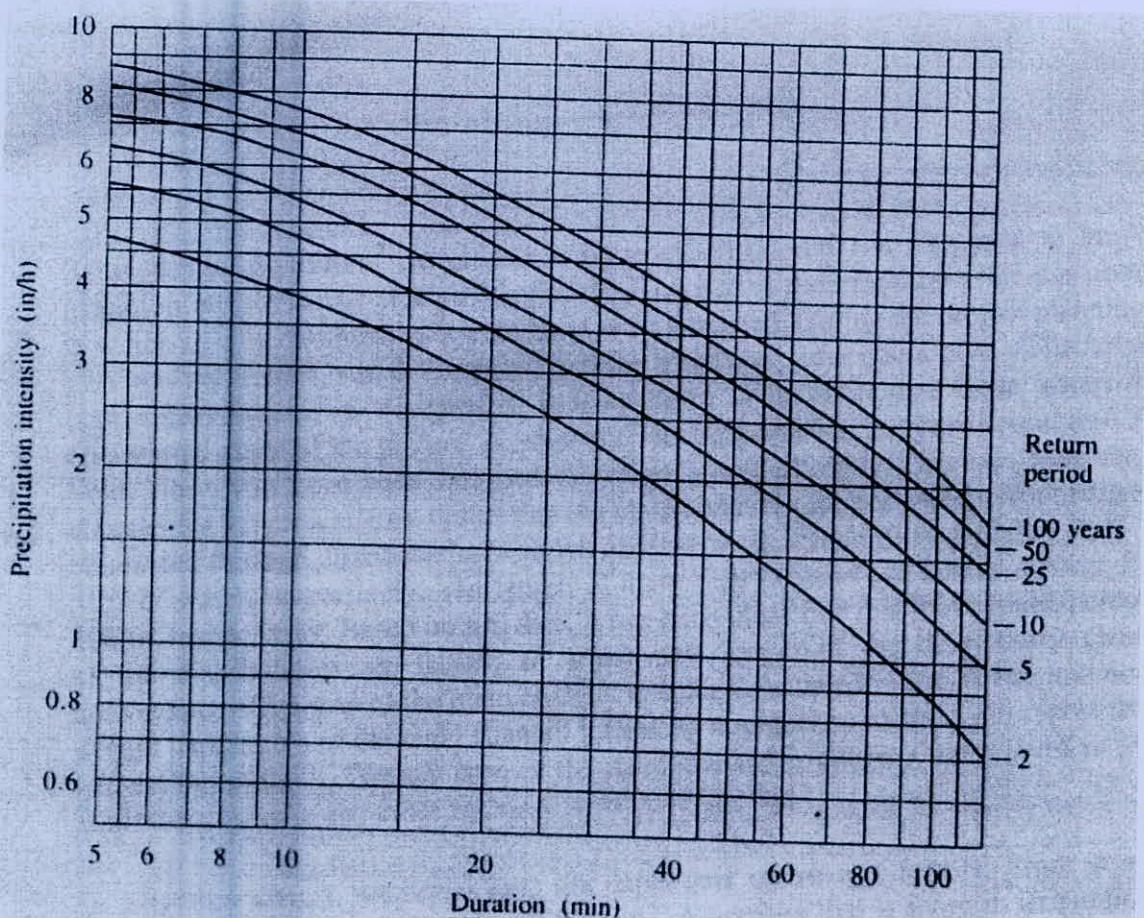

Fig. 1 : Intensity - Duration - Frequency (IDF) Curves
- (c) At a climatic station, air pressure, air temperature and relative humidity are 100 kPa, 25°C and 70%, respectively. Calculate the corresponding vapor pressure, specific humidity, air density and dew-point temperature. (15)
8. (a) Explain in brief the use of Plotting Position formula in time series analysis. (5)
(b) The design precipitation intensity is 2.5 in/h for a storm with a T-year return period for a slope of 0.007 and maximum length of travel of water of 1500 m. Estimate the design return period (T). In addition, estimate the design precipitation volume (m^3) and design peak discharge (m^3/s) using rational method. The area of the catchment is 3 km^2 and runoff coefficient is 0.7. Use IDF curves (Fig. 1) and Kirpich formula for your estimation. (15)